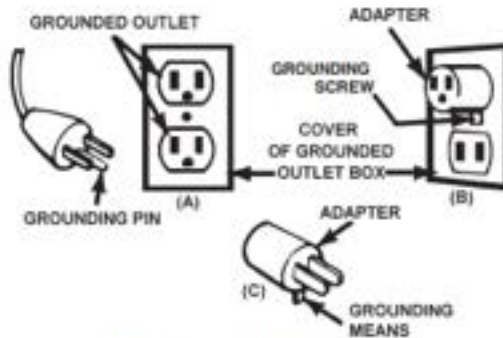

FIGURE 1 GROUNDING METHODS
This battery charger is designed for use on a nominal 120-volt circuit and has a grounded plug that looks like the plug illustrated in FIGURE 1 (A). A temporary adapter, as shown in FIGURE 1 (B) and (C), may be used to connect the charger plug to a two-pole receptacle (outlet), as shown in FIGURE 1 (B). The temporary adapter should be used only until a properly grounded outlet can be installed by a qualified electrician.